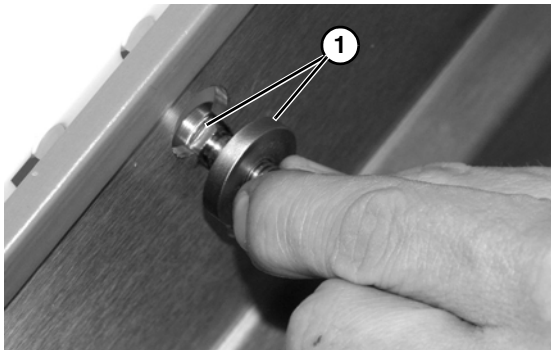

Figure 25
1. Insert carriage bolts with spacers (**Figure 25, item 1**) into slotted holes in conveyor side.